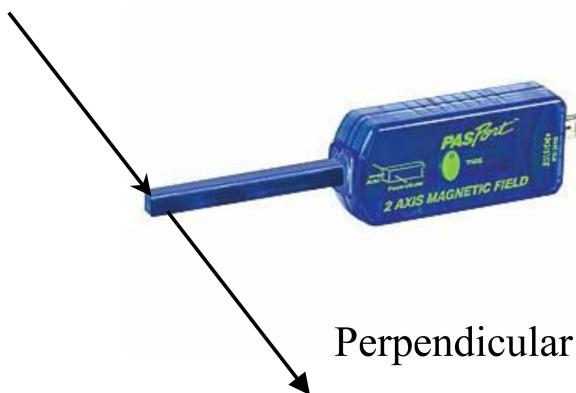

Figure 8: Sensing element at the probe of magnetic field sensor
4. Attach the magnetic field sensor to the computer. Notice that the magnetic field sensors probe has 2 white dots: one for sensing perpendicular magnetic field lines (as shown in Figure 8 below) and the other for axial field lines. You will use the perpendicular sensing element of the sensor. Note the direction of the arrow. The sensor is set to measure in units of gauss (G). One gauss equals  $1 \times 10^{-4}$  tesla.